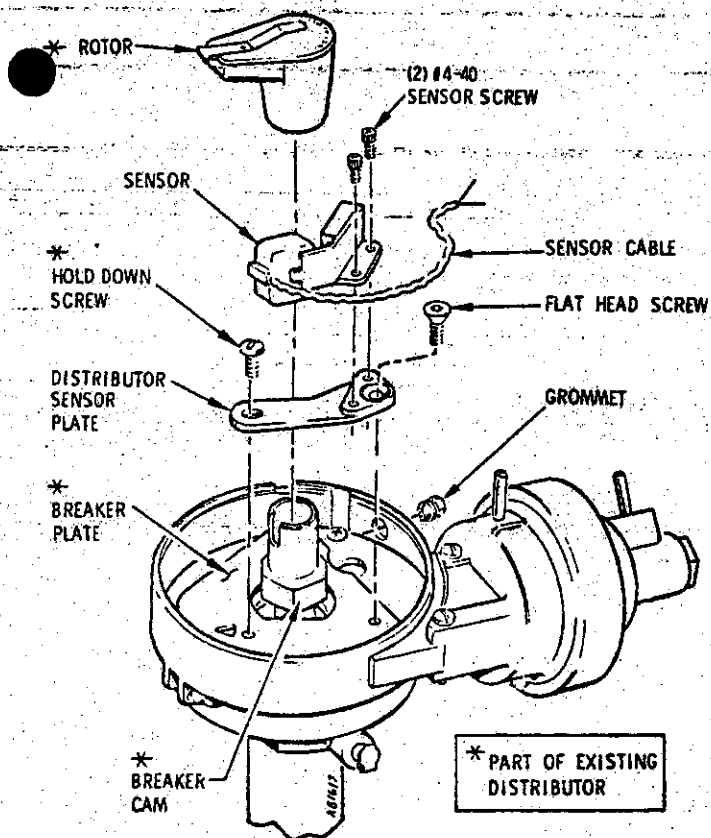

FIGURE 1
4. Securely mount distributor sensor plate to distributor breaker plate, using existing breaker point mounting holes, with one of the hold-down screws and the flat head screw from this kit. (Figure 1)